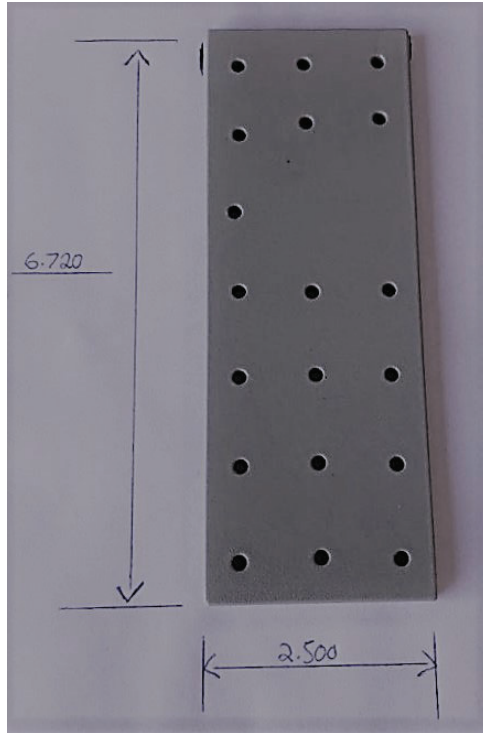

Figure 3 - Doubler Details (0.250" Thick 2024-T3)
Note: Reference Figures 3 through 5
- a. Fabricate per Figure 3 dimensions from 0.250" thick 2024-T3 (6.720" x 2.500").